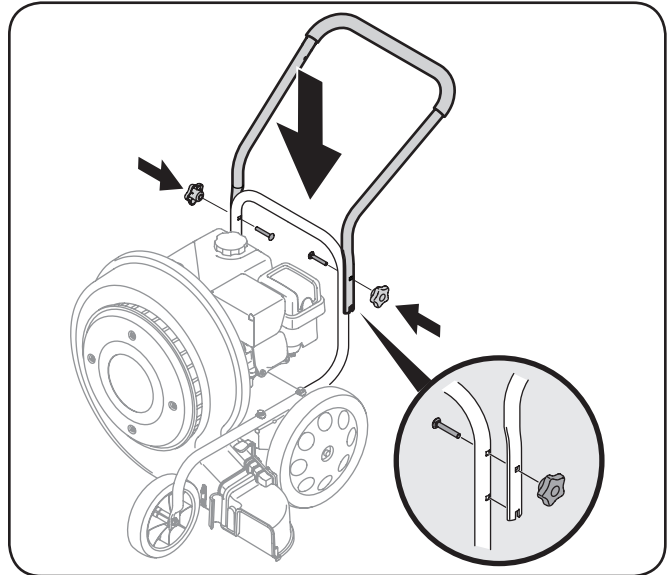

Figure 3-2
2. Place the upper over the lower handle, aligning the upper holes/metal tabs in the upper handle with the upper holes/lower holes in the lower handle. See Figure 3-2.
3. Secure with the carriage screws and star knobs removed earlier. See Figure 3-2.